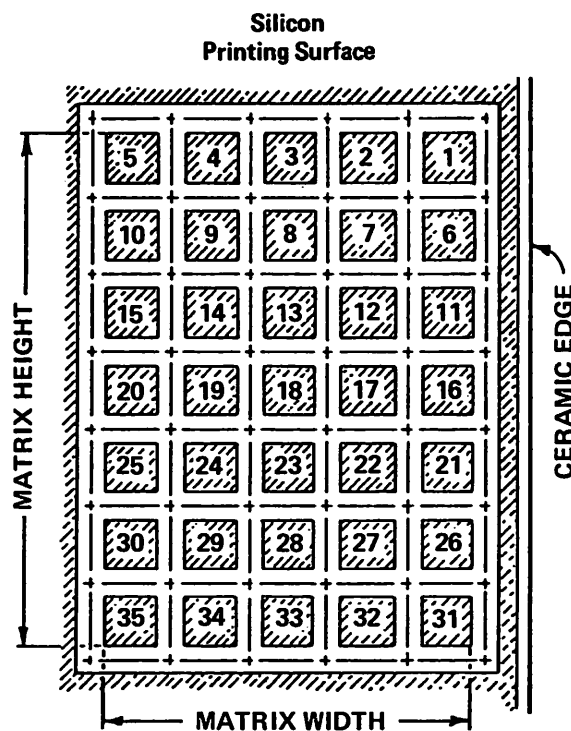

FIGURE 6-5. PRINT HEAD DOT MATRIX
The print head contains a 7 x 5 dot matrix, see Figure 6-5. The matrix is mounted on a white, ceramic carrier illustrated as item 1 on Figure 3-2. The 35 dots on the print head matrix are not passive heating elements. They are collectors of power transistors embedded in print substrata.